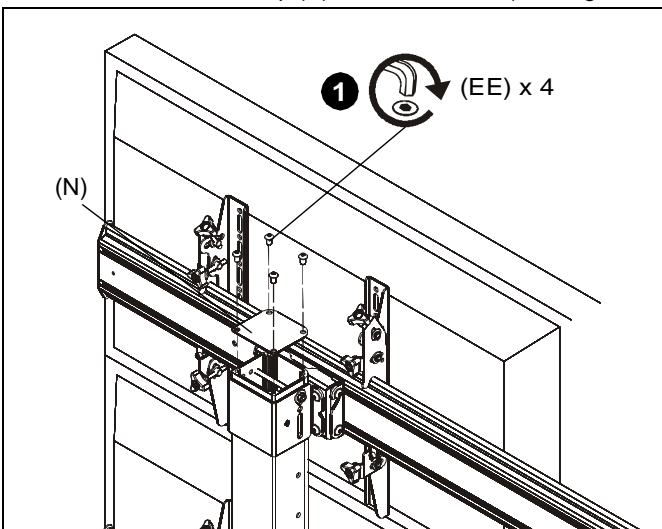

Figure 15
1. Use four 5/16-18 x 1/2" button head cap screws (EE) to install each column cap (N) to each column. (See Figure 15)